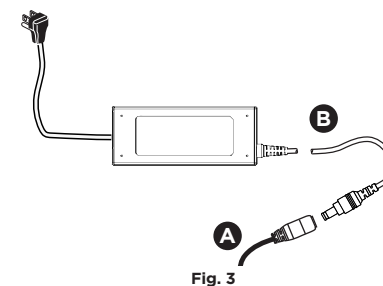

Fig. 3
- Plug in the connector of the two heaters (A) into the power supply (B) (Fig. 3).